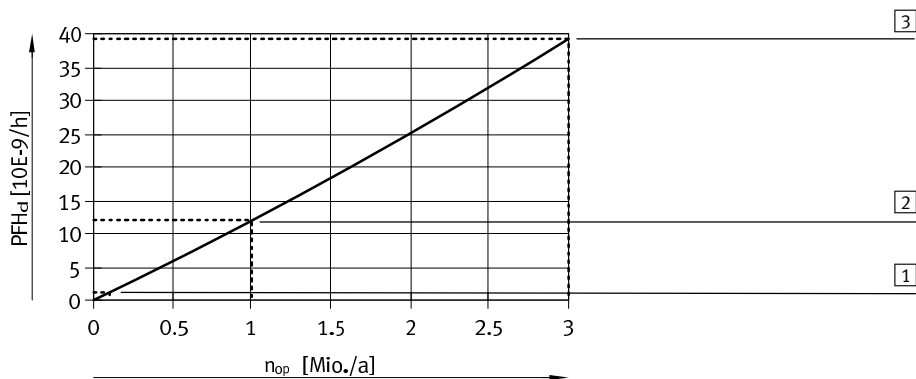

Fig. 12 PFH_d value¹⁾ as a function of the average number of actuations per year n_{op}
Characteristics <ul style="list-style-type: none"> – Max. achievable category – Max. achievable Performance Level – Service life characteristic B₁₀ – Diagnostic coverage (DC) – Probability of an endangering failure per hour (PFH_d) – Duration of use T_M – Proven component 	4 PL e 10 million switching cycles 99 % if the logic operation of the control signal and the signal change of the proximity sensor (expectation) is checked with each actuation of both solenoid valves → Tab. 10 and Fig. 12 20 a Yes
The control block is a 2-channel subsystem. The characteristic values for safety engineering (→ Tab. 9) apply for each channel. The PFH_d value of the subsystem (→ Tab. 10 and Fig. 12) can be calculated, for example, with SISTEMA²⁾ using the following values: